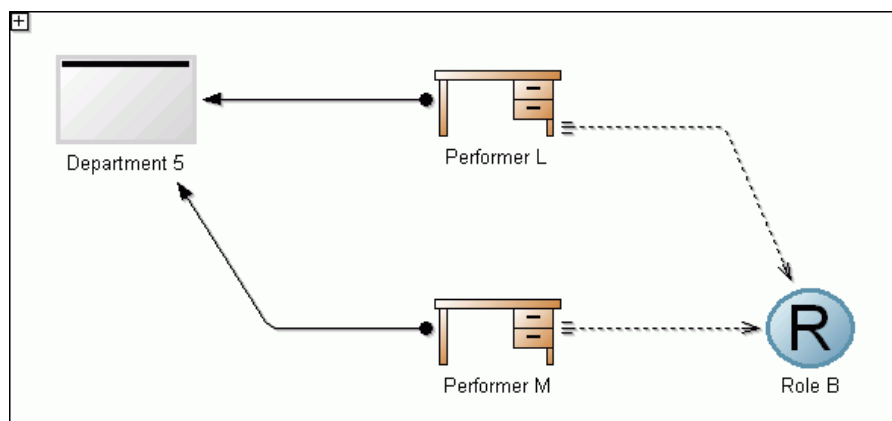

Figure 400: Example model in the ADL file (Variant 1)
**Variant 1:** A model "Example model 1" of the type "WE model" is stored in the ADL file, which is different from the model stored in the database, since it does not contain the object "Role A" (see fig. 400).
When the option **"Delete not updated objects" is activated**, the result of the **Variant 1** equals the contents of the model stored in the file (see fig. 400) since the object "Role A" is not contained in the model to be imported.